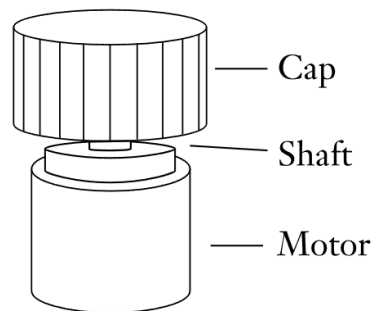

Figure 1
- f. Position the hole of the cap, flat side down, onto the motor shaft (see Figure 1). Press the cap all the way down so it is flush with the motor and the shaft protrudes through the hole.